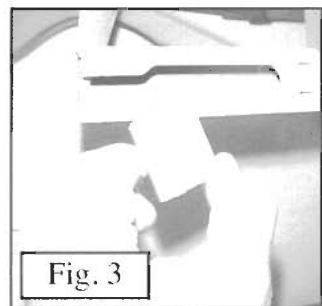

Fig. 3
A. Attach the Platform to the tree first. To do this, rotate the hatch cover out of the way, as shown in **Figure 3**.